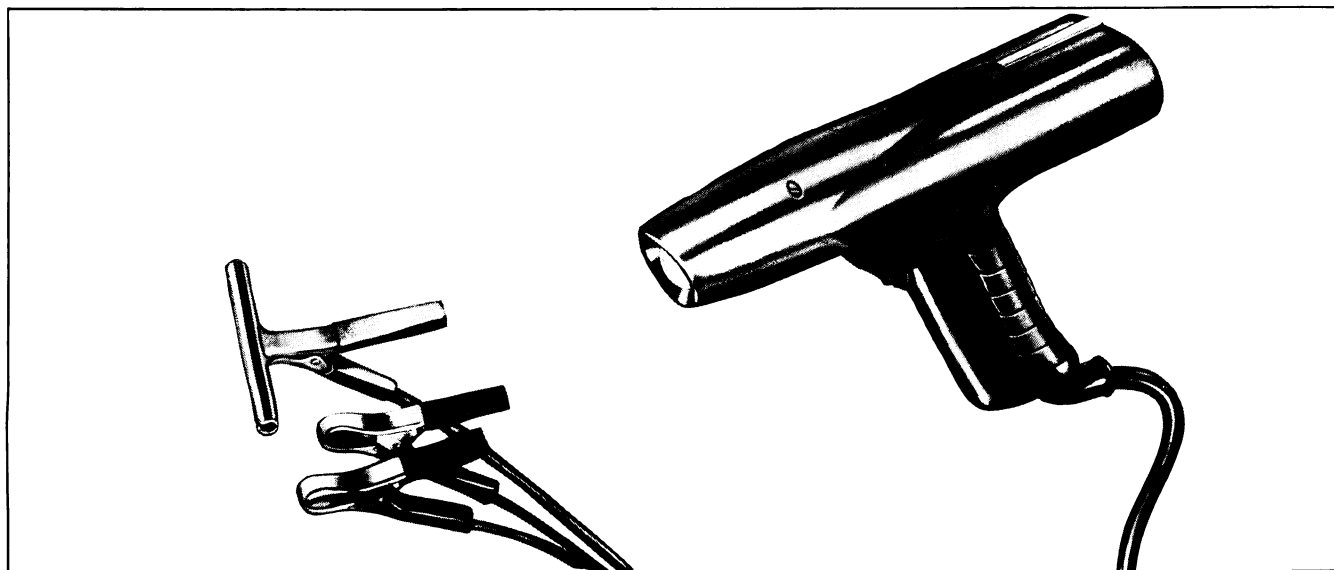

Fig. 3-32 Timing light for setting spark plug firing timing.
**Timing Light.** The timing light is used to set the timing of spark plug firing. The neon type is less expensive but gives out less light. The power type needs to be connected to a 110-volt power source or should be equipped with clips for attaching to a 6- or 12-volt battery. It emits a bright light for easy timing (Fig. 3-32).